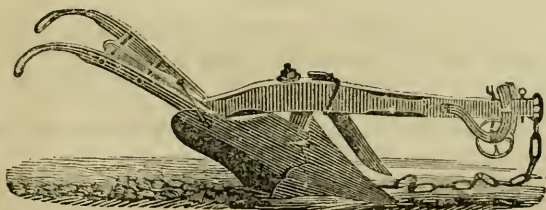

FIG. 8.
**Swivel or Side-Hill Ploughs**.—See Fig. 8.—The mould-board and share of these Ploughs are so constructed as to be turned from one side of the beam to the other, by unlocking the clasp of the mould-board, (as seen in the cut,) attached to the center-piece of the handles, and lifting the beam by the handles, while the share and mould-board roll under it on a sort of swivel-hinge, till the beam and handles settle down on the other side, and the share and mould-board are fastened by the hook, in their proper places. This changing the plough, from right hand to left, is effected in a minute, while the team is turning to commence a new furrow.